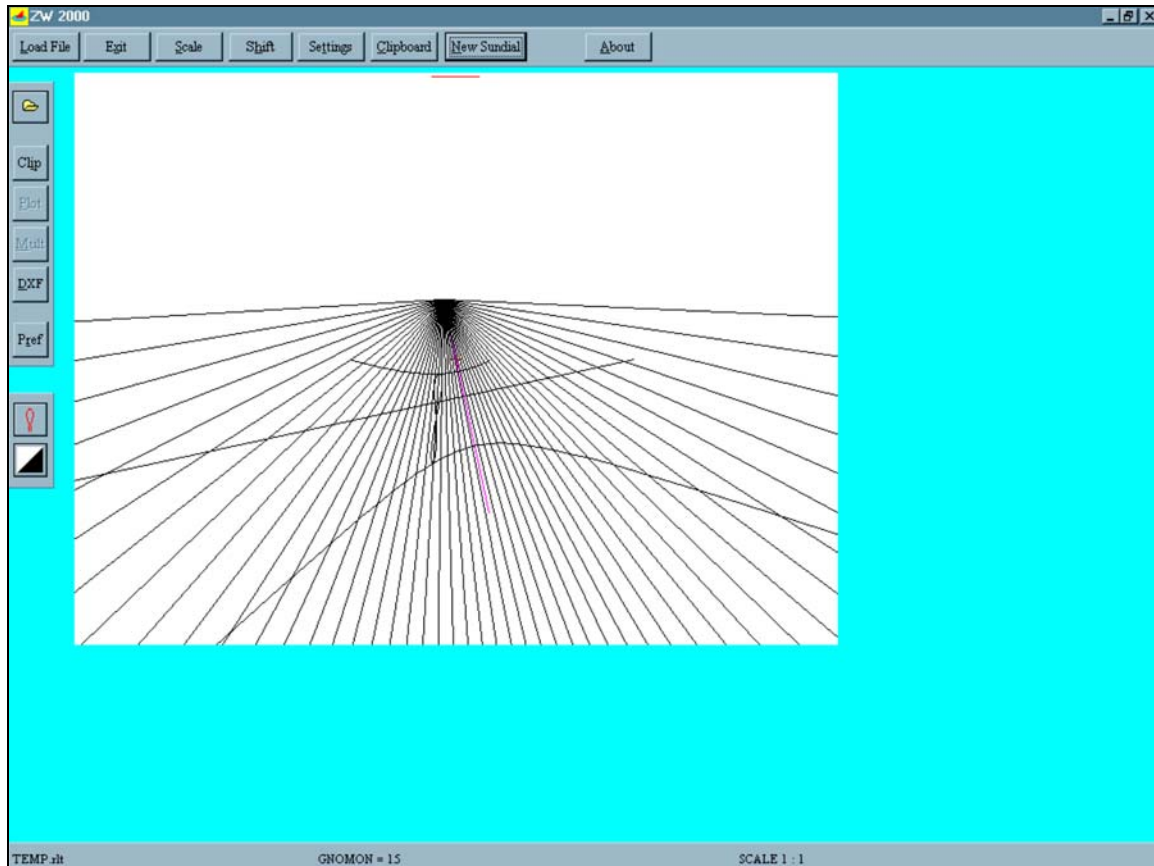
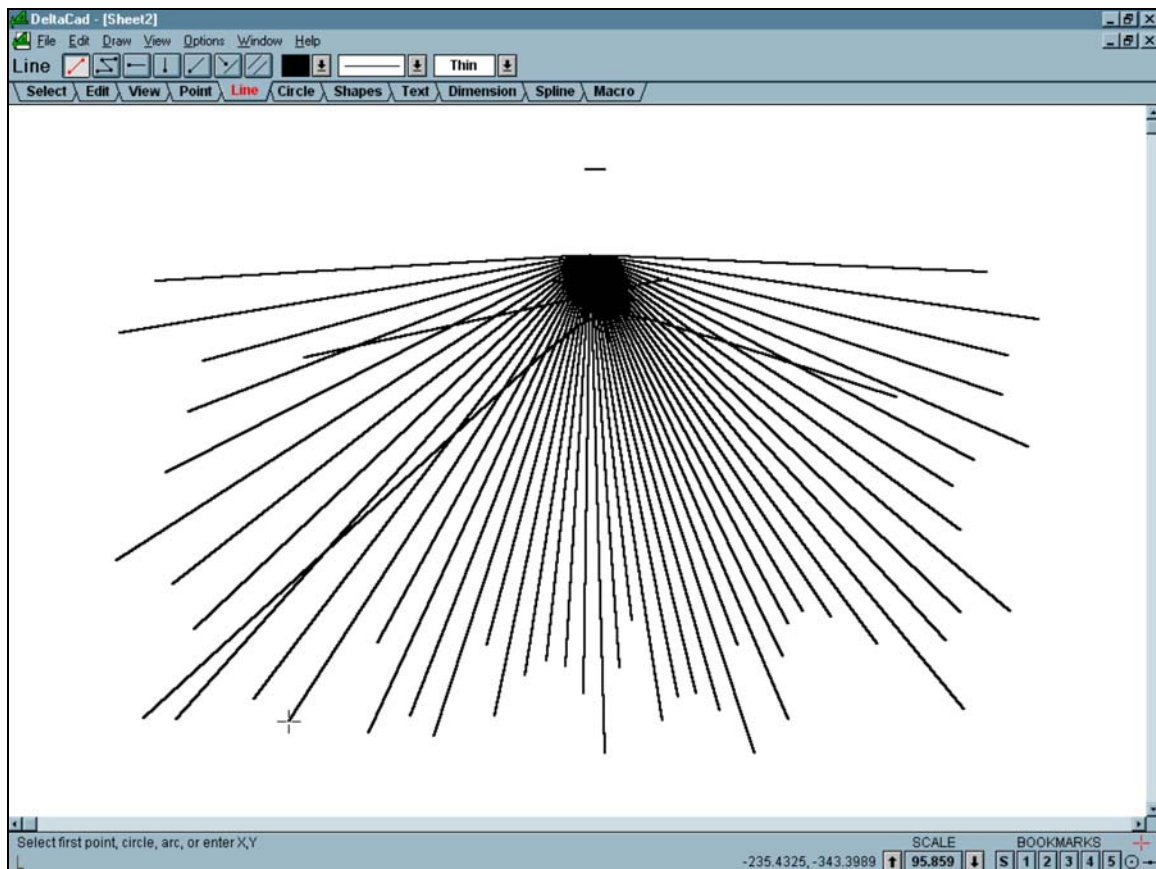

Figure 1: ZW2000 Vertical Declining Sundial Design
Figure 2: Vertical Declining Sundial Design in DeltaCad
Figure 1 shows the ZW2000 design just prior to being saved as a dxf file. The following parameters were used for this design:
Start up DeltaCad. Select "File" and then "Open". A window appear and you can go to the directory where your dxf file is stored. Check that "Files of type" is selected to "DXF File (*.dxf)" or you will not see the file. Highlight your file and then select "Open". The drawing will appear as in Figure 2. Don't worry about how it looks in comparison to Figure 1. It is as it should be at this point. Note the following:
1. The drawing shows all the lines to their full extents. They are not bound as they are in Figure 1.
You may be wondering why the sundial appears as it does. It all has to do with scale. The scale of this drawing is set to "1". In ZW2000 the "gnomon" was set to 15 and is represented by the horizontal line at the top of the drawing. When the dxf file was opened in DeltaCad this line is now 15 inches long. In Figure 2 this appears as a relatively short line indicating that the overall size of the sundial displayed is very large. Everything gets a bit crowded near the origin of the sundial. This is likely much larger than any sundial you would want to build.